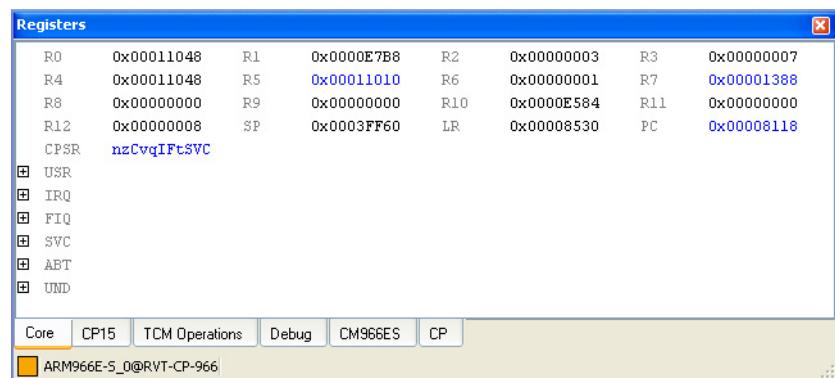

Figure 13-18 Registers view
7. The contents of the Registers view are updated to show the program status as the target stops, shown in Figure 13-18.